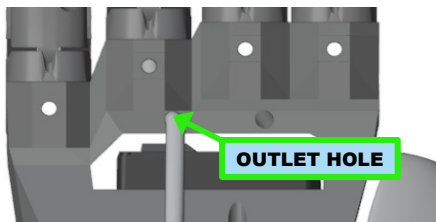

Figure 5.33: Inserting the tube into the tendon outlet hole (rear view)
2. Insert the other end into the pass-through tunnel and then into the final slot (figure 5.33).